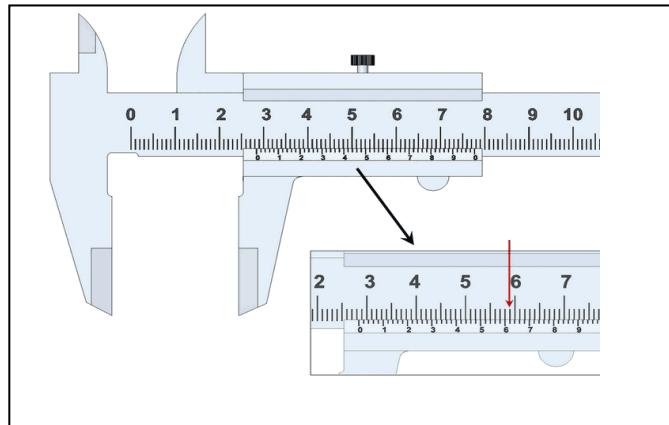

Figure 1b(i) / *Rajah 1b(i)*
b) Based on vernier caliper and micrometer in **Figures 1b(i)** and **Figure 1b(ii)**, express in detail the correct reading.